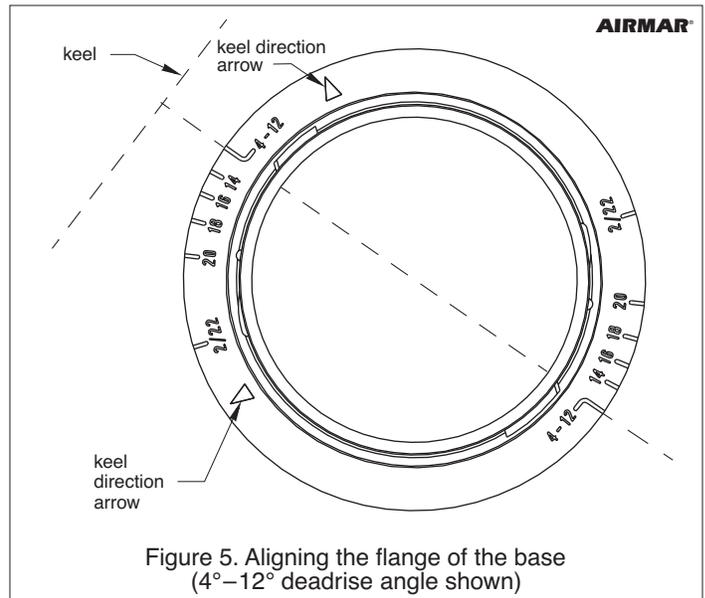

Figure 5. Aligning the flange of the base (4°–12° deadrise angle shown)
5. The numbers on the flange of the base represent deadrise angles. Identify the number that most closely corresponds to the deadrise angle of your hull. Find its match on the opposite side of the flange. Keeping the keel direction arrows on the side of the base nearest the keel, align the two raised marks indicating your deadrise angle with the guideline drawn on the hull (see Figure 5).